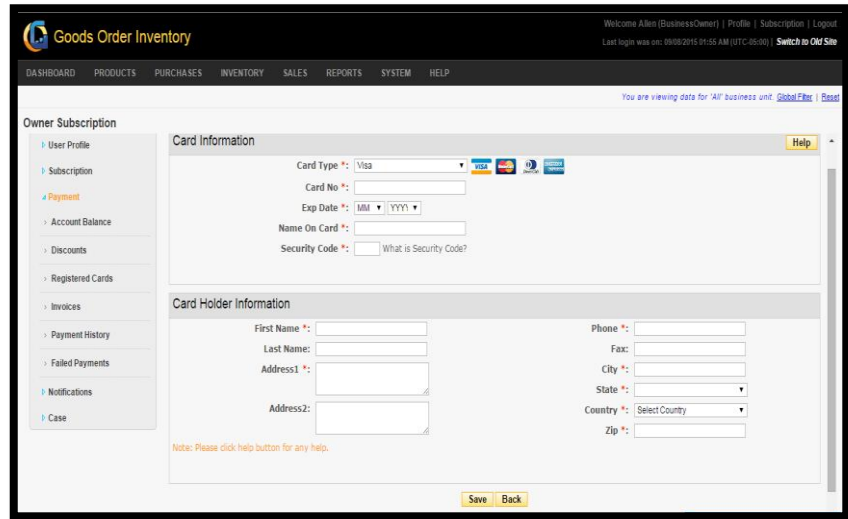

FIGURE 7.22.4
5. User can also add new card by clicking on the hyperlink “Add Account”. To add a new card, user need to provide all the necessary information related to the card, need to save it and mark it as default, so that the new card can be used for future payments. **(Figure 7.22.4)**